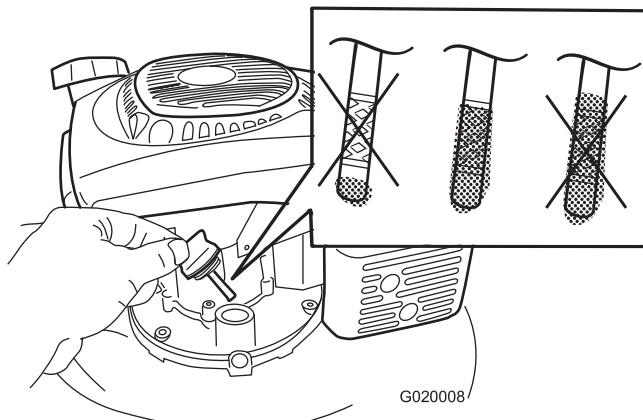

Figure 20
4. Slowly pour oil into the oil-fill tube until the oil level reaches the Full line on the dipstick (Figure 20). **Do not overfill.** (Max. fill: 0.65 L (22 oz), type: 10W-30 or SAE 30 detergent oil with an API service classification of SJ or higher.)